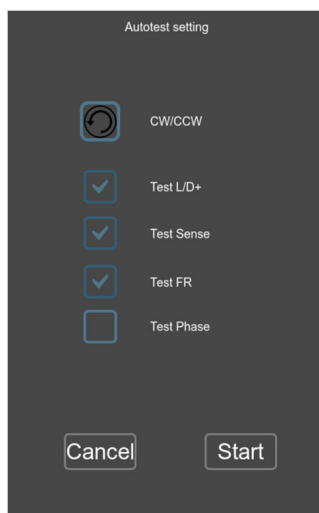

Figure 14
- 7.1. After pressing **“Autotest start”**, an autotest configuration window will open (see Fig. 14). In this window, you can set the following parameters: